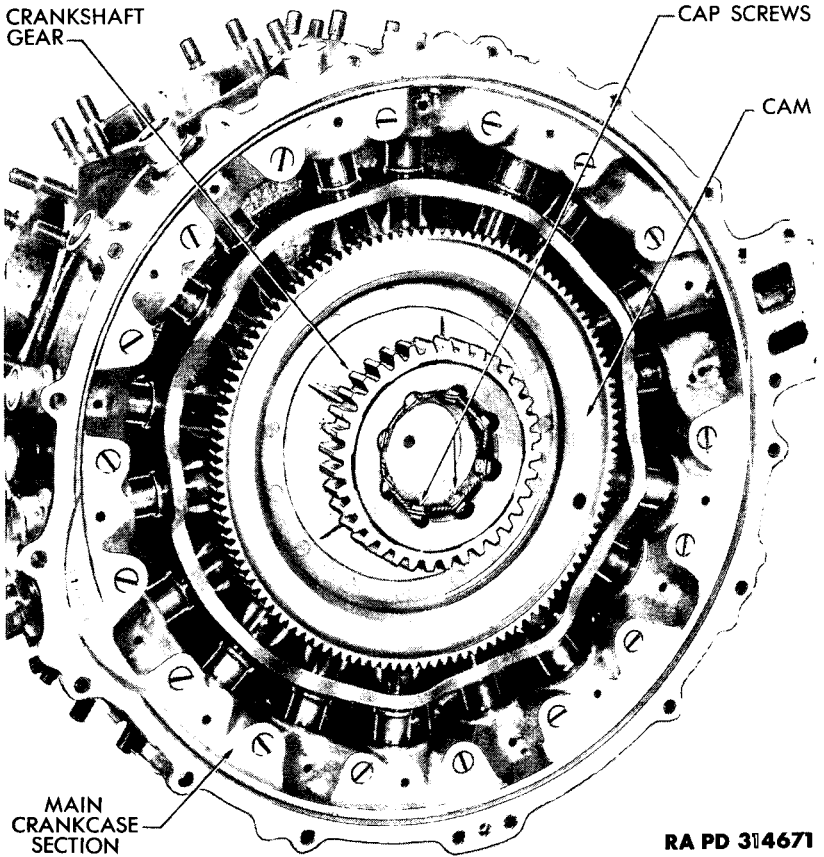

Figure 71 – Main Crankcase Section before Removal of Crankshaft Gear
w. Remove Crankshaft Gear. Cut and remove lock wire from eight square-headed cap screws (fig. 71). Remove cap screws, and pull gear assembly from rear end of crankshaft.